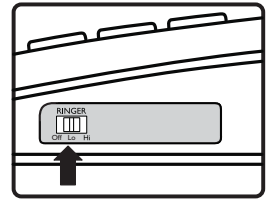

Figure 14
Ringer Volume can be set to one of three (3) positions by pressing the RINGER VOLUME UP or DOWN switch located on the right side of the telephone. See Figure 14.